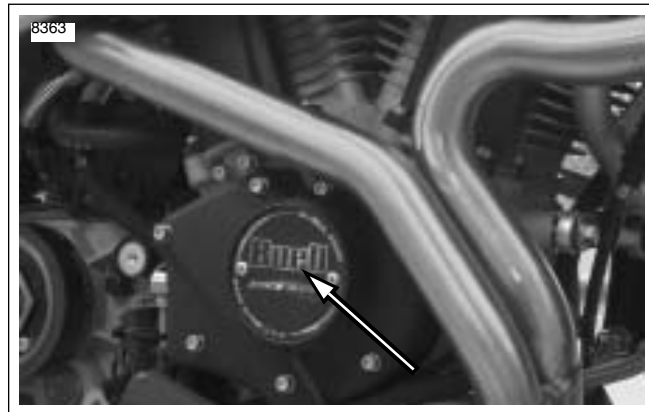

Figure 1-48. Timer Cover
1. See Figure 1-48. Remove timing plate cover.